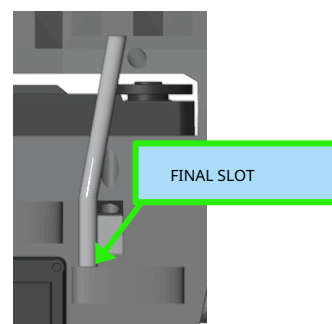

Figure 5.29 Inserting tube into the final slot (rear view)
2. Insert the other end into the final slot shown in figure 5.29